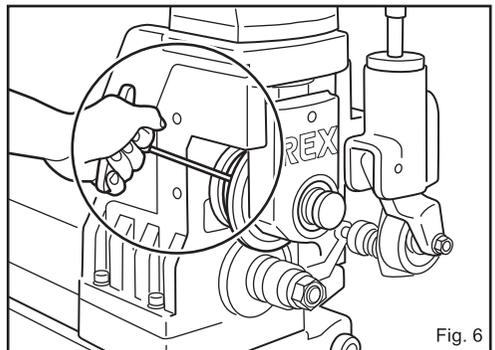

Fig. 6
2. Remove the upper roller by loosening its fitting screws and pulling out the roller shaft. (Fig. 6)